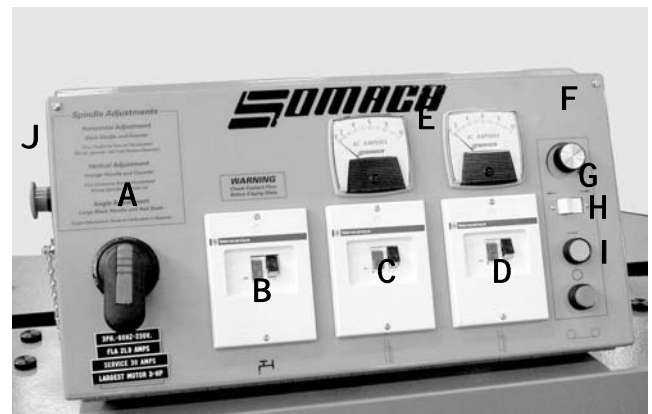

Figure 28
1. Turn the main power switch to “ON” (see Figure 28, “A”).